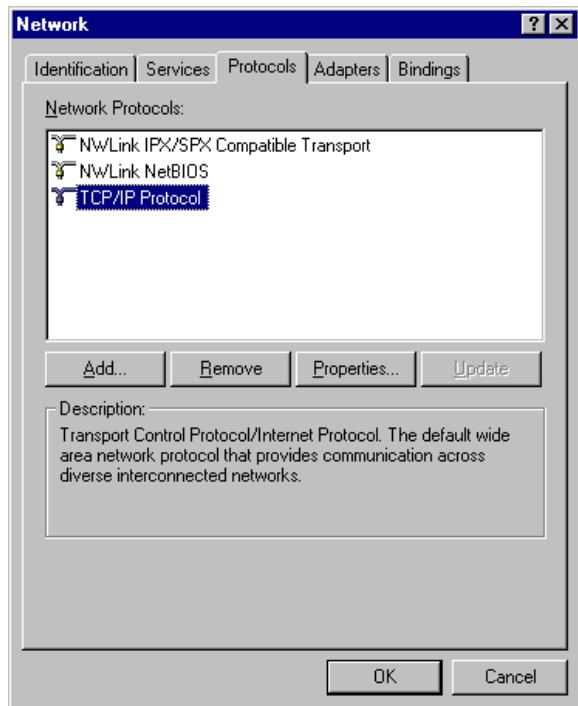

Figure 4
- Enter an **IP Address** and **Subnet Mask** (see Figure 4). For a discussion of IP addressing, refer to the CTI Application Note *IP Addressing and the 2572*.